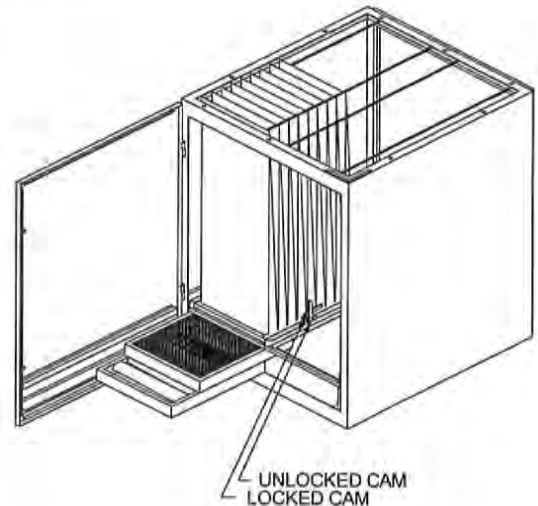

FIG. 4
6. Visually inspect the bag filter. If the pockets are loaded with oil and dirt, then remove the filters by disconnecting the filter rod from the unit and disengaging the positive sealing system. (See FIG. 4.)